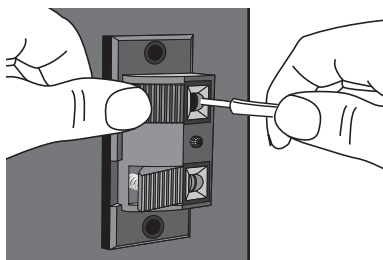

figure 12
3. Insert stripped wire **(figure 12)**.